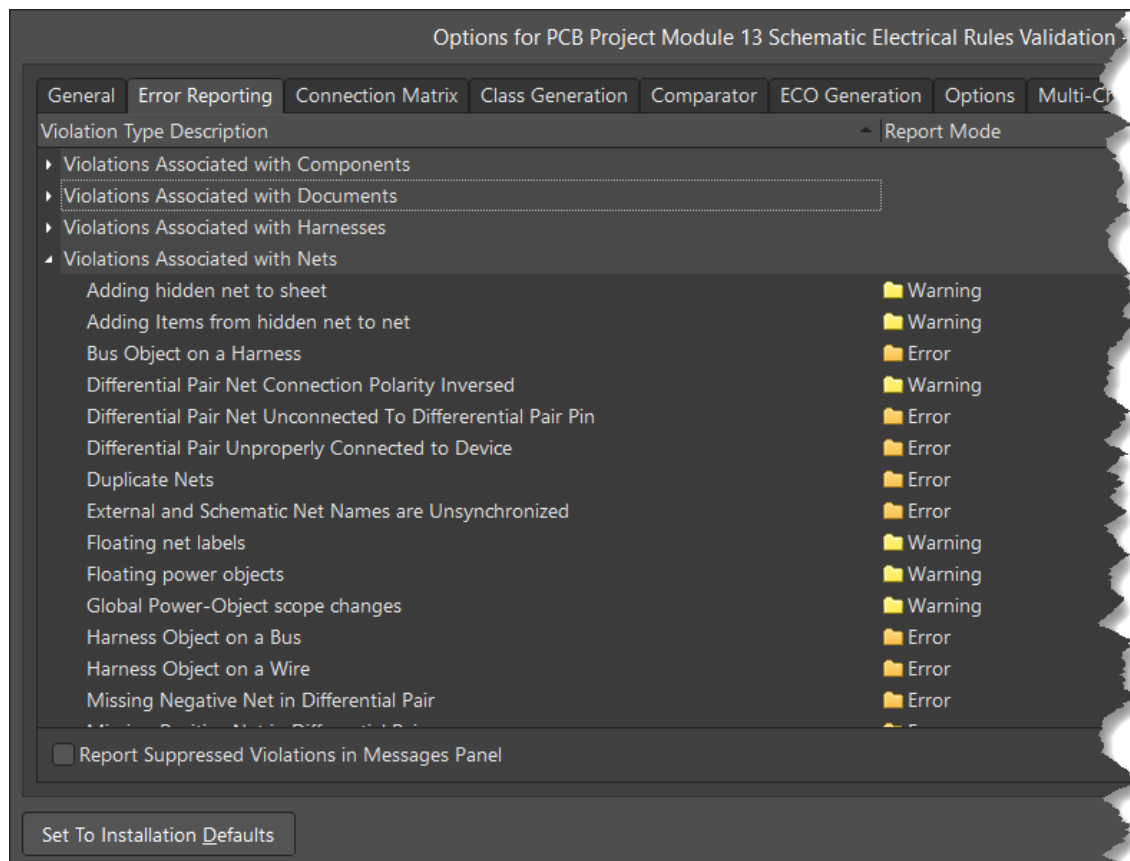

Figure 1. Project Options Error Reporting Tab
9. Click on the *Error Reporting* tab as shown in Figure 1.